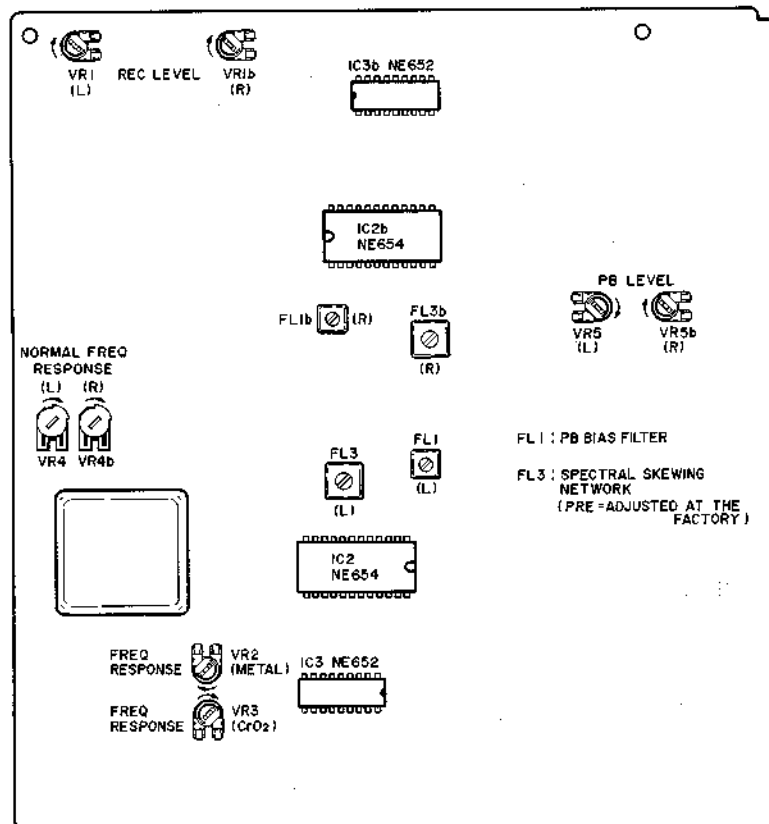

Fig. 7-3 Pre-Amp PCB ADJ Points
4. Refer to Fig. 7-3 for above adjustments.